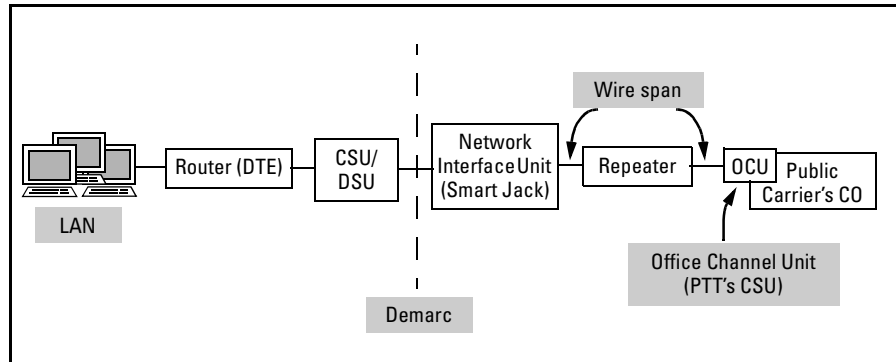

Figure 4-2. Local Loop
When you lease an E1- or T1-carrier line, your LAN must be connected to the public carrier's nearest central office (CO). All of the telecommunications infrastructure that is used to connect your LAN to the CO is collectively called the *local loop*. Because the CO may be located miles away from your premises, this telecommunications infrastructure may include repeaters, as well as switches, cable, and connectors. (See Figure 4-2.)
All carrier lines require the same basic components on the local loop, although the components may differ slightly in form and design. (See Figure 4-2.) These components are listed below: